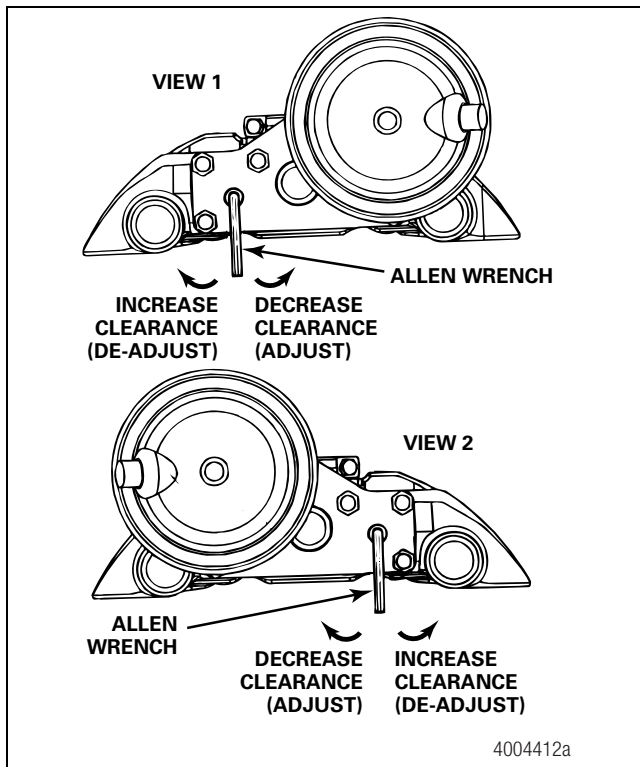

Figure 3
2. Use a 6 mm Allen wrench to de-adjust the brake. Stop turning the Allen wrench when you feel resistance. When you feel resistance, adjust the brake 1/4 turn to ensure that automatic adjustment will occur. Figure 3. Note the location of the air chamber with respect to the adjustment direction.
- A. Use a 6 mm Allen wrench to adjust the caliper by reducing the brake pad-to-rotor clearance to ZERO. Figure 3.
- C. Increase the brake pad-to-rotor clearance 10 clicks or 3/4 turn (de-adjust) to set the initial clearance. Figure 3.